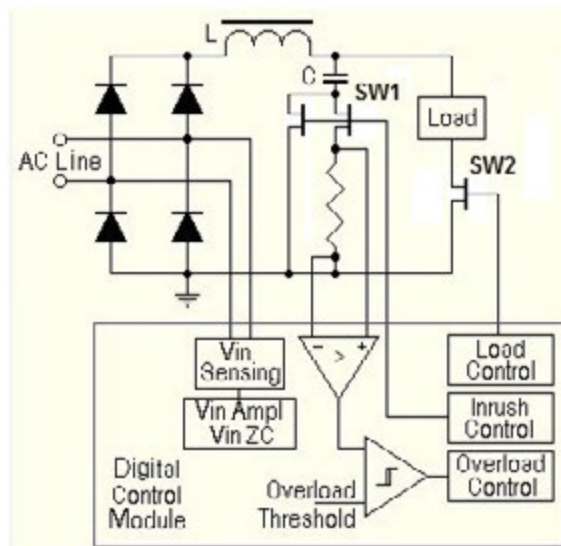

Figure 1: Circuit Schematic for Digital Inrush Controller
Figure 1 illustrates a circuit schematic in which the key idea is to provide charge to the bulk capacitor in equal increments. The Capacitor (C) is charged by a power MOSFET (SW1) driven according to a time-dependent pulse train. The pulse sequence is designed to provide equal voltage increments at the capacitor and maintains a peak of charging current at about the same value at each cycle. The number of cycles depends on the capacitor's value, which is selected